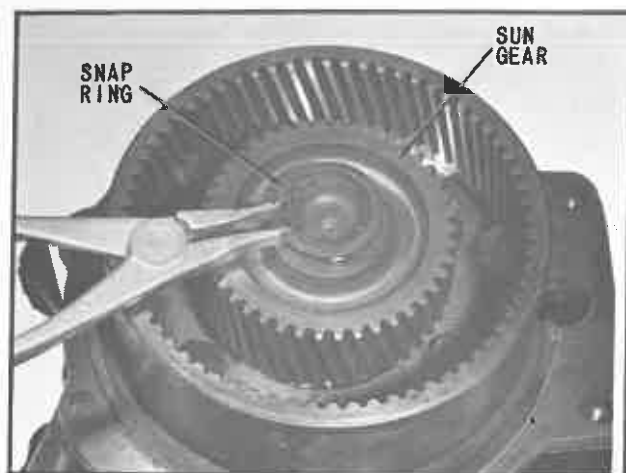

Fig. 24 Installing Snap Ring
4. Remove snap ring and sun gear from output shaft (Fig. 24).
17. Install the sun gear on the output shaft until it is seated against the shoulder and then assemble the snap ring firmly into groove (Fig. 24).